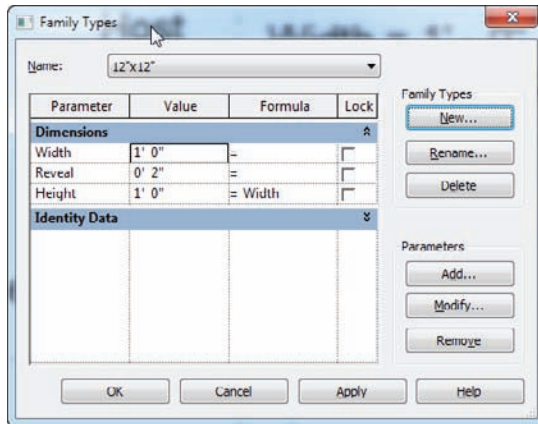

FIGURE 17.10 Creating a new family type
10. Click the New button in the Family Types area, as shown in Figure 17.10.
11. Call the new type 12" × 12" (300mm × 300mm), and click OK (see Figure 17.10).